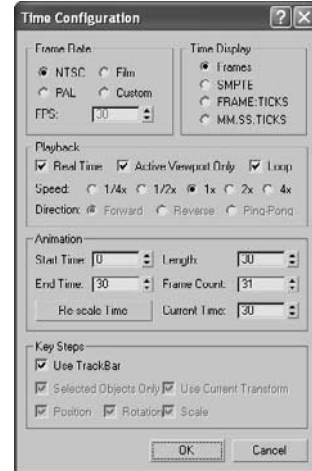

Figure 8.45
4. For now, change the frame range in the Time slider so you're working between frame 0 and frame 30. Click the Time Configuration button (  ) at the bottom of the UI next to the navigation controls. Figure 8.45 shows the Time Configuration window. In the Animation section, change the End Time to 30 from 100. The Time slider will reflect this change immediately.